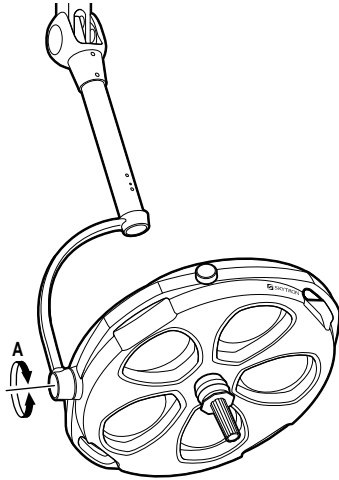

Figure 2-2. Lighthead Pitch
a. Check the pitch axis tension of each lighthead by moving it through its full range of motion. See figure 2-2.